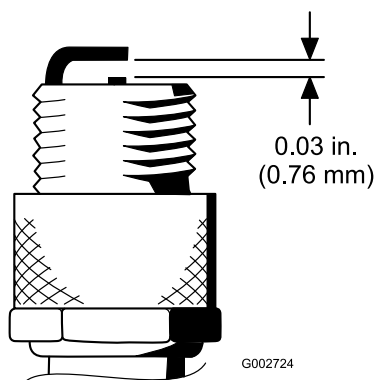

Figure 28
4. Set the air gap between the center and side of the electrodes at 0.76 mm (0.030 inch) as shown in Figure 28.